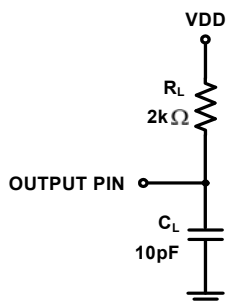

FIGURE 2. EQUIVALENT LOAD CIRCUIT FOR DIGITAL OUTPUT TESTING
8. Transition time to high impedance state is dominated by RC loading on the SDOUT pin. Specified value is measured using equivalent loading shown in Figure 2.